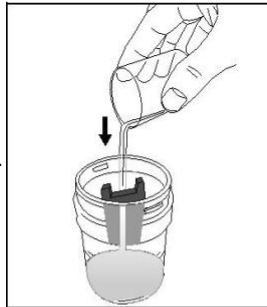

Fig. 2
5. Step 2: Pour the medication into the nebulizer cup following the physician prescribed dosage, Fig 2.